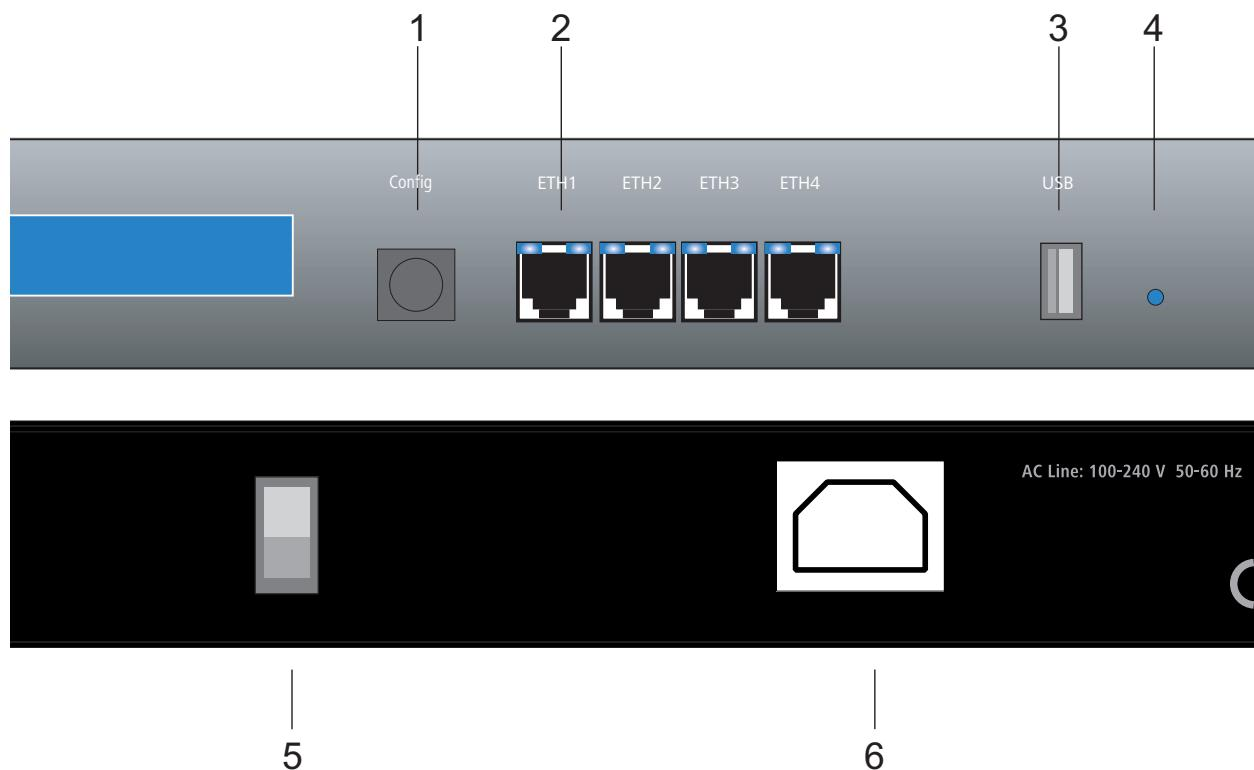

Figure 2: *Device connectors in WLAN Controller*
- LAN – Firstly connect your BAT-Controller WLC to the LAN. Plug one end of the supplied network cable (green connectors) into an Ethernet port on the device (figure 2, position 2) and the other end into an available network connector socket in your local network. The Ethernet ports use autosensing to recognize the data rate (10/100/1000 Mbps) and the type (MBI/MBI-X) of attached network devices. You can connect devices of different speeds and types in parallel.
- Configuration interface – optionally, connect the device directly to the serial interface (RS-232, V.24) of a PC. Use the included serial configuration cable for this connection. Connect the configuration interface (figure 2, position 1) to an available serial interface on the PC.
- Supply power and switch on – supply power to the device by using the power connection (figure 2, position 6). Afterwards, switch it on by using the switch located on the rear panel (figure 2, position 5).